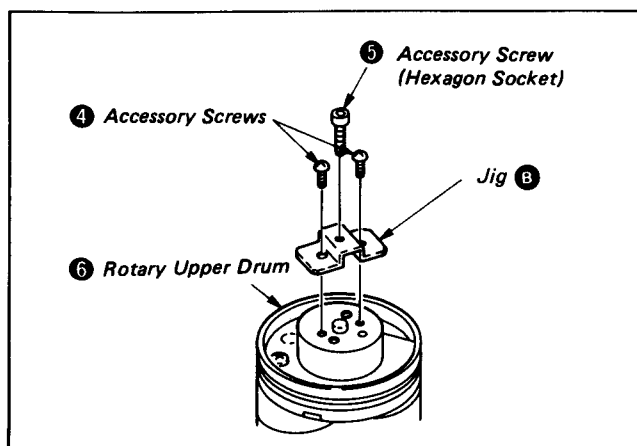

Fig. 8-48.
- 4) Remount the dismantling Jig B by the accessory screws ④ utilizing the screw holes in which the dynamic damper was mounted. Drive the hexagon socket screw ⑤ into the jig and pulled up the rotary upper drum ⑥. (See Fig. 8-48.)